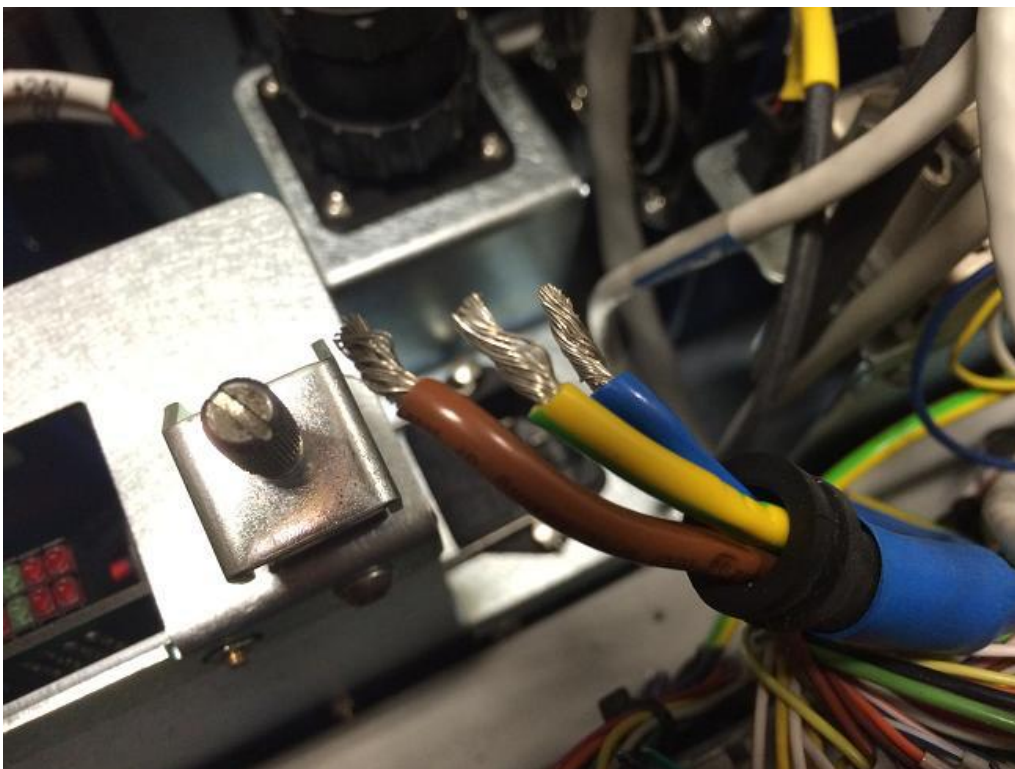

Figure 15
20. Remove 3 x Wire Cores from Horizontal Type Power Connector as Figure 15.